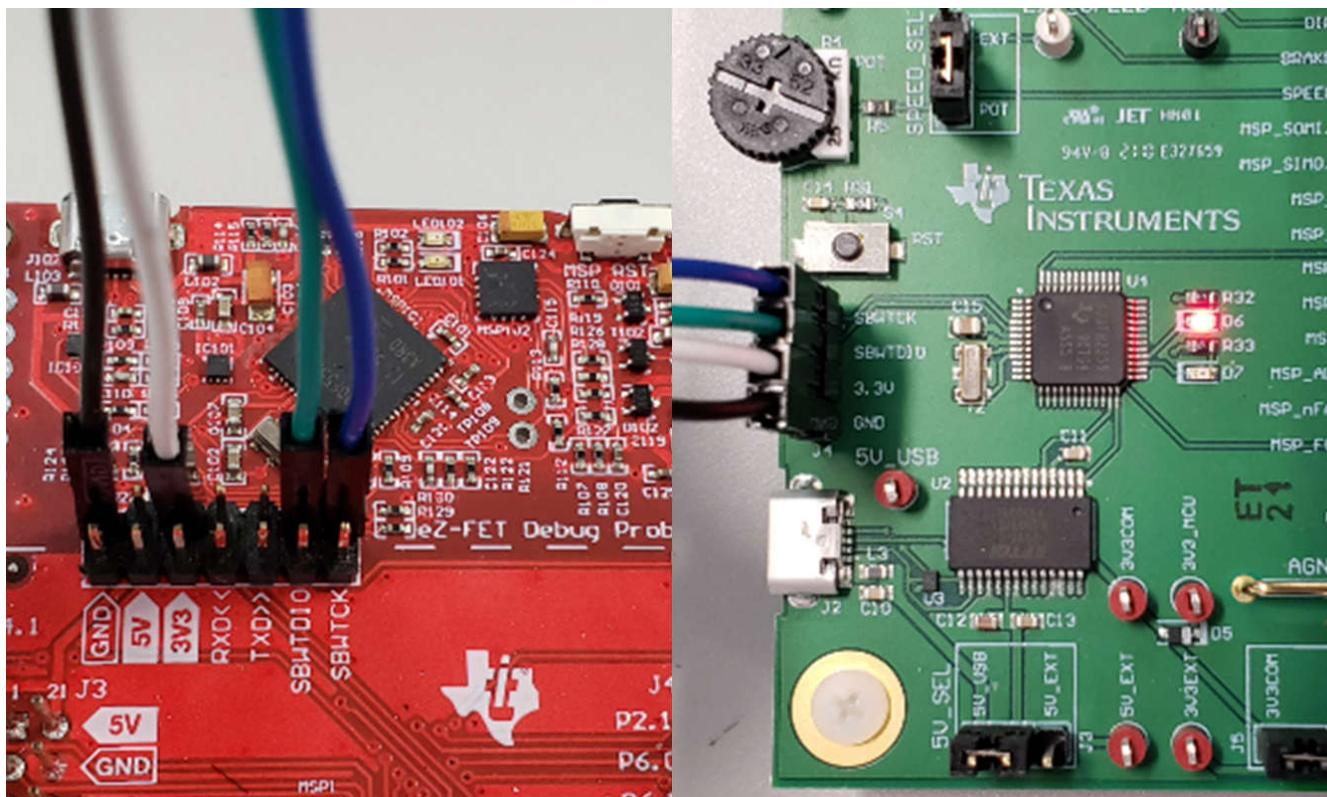

Figure 8-3. MSP430 LaunchPad eZ-FET Debug Probe Connected to MSP430FR2355
2. Connect the top pins on the eZ-FET side of the LaunchPad of the GND, 3V3, SBWTCK, and SBWTDO signals to their respective pins on J4 of the MCF8316DEVM as shown in Table 8-1 and Figure 8-3.